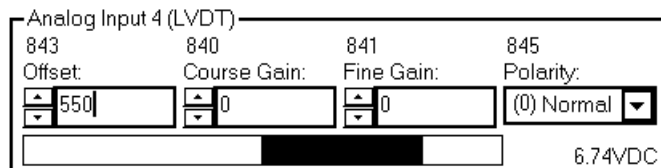

Figure 15: LVDT Input
Program items 840 through 845 are used to configure the LVDT. The LVDT Input is configured from the Analog IO Configuration Form (select menu Diagnostics and then Configuration). See Figure 15.